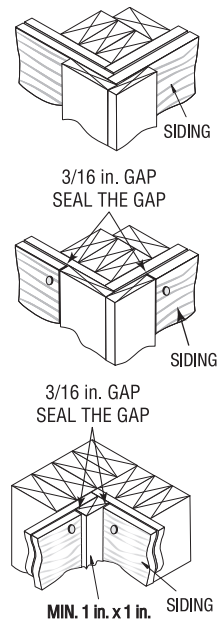

Figure 3
- When butting siding to inside or outside corners, use a minimum 1 in. thick dry wood material. TruWood Trim is recommended (see Fig. 3).